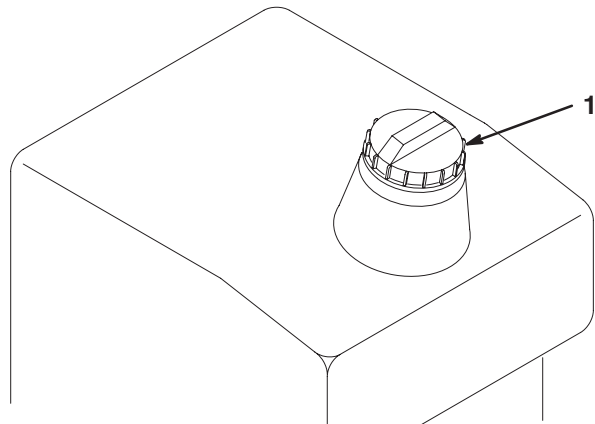

Figure 7
1. Clean the area around the fuel tank cap (Fig. 7).